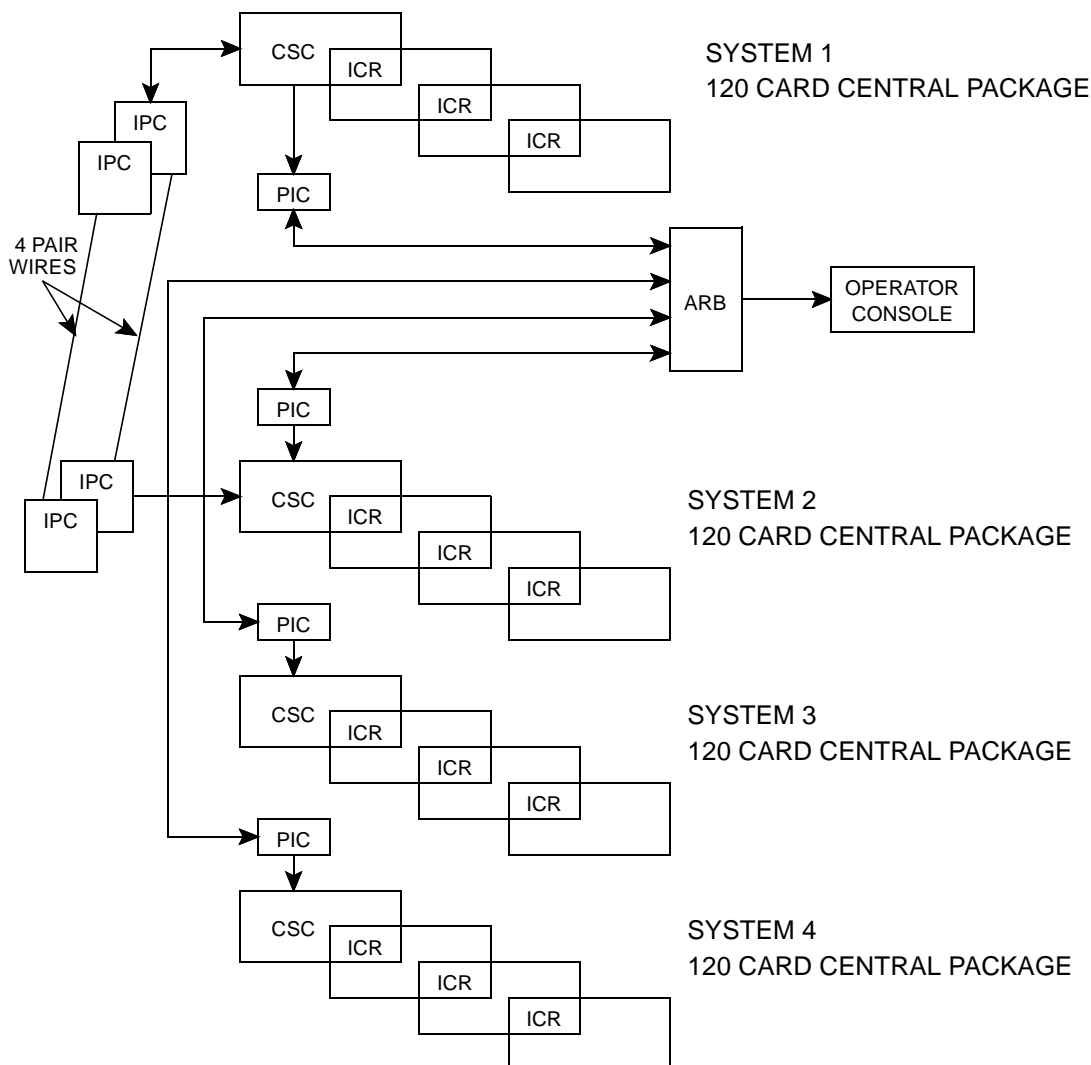

Figure 2-1 EXPANDED SYSTEM
The VR-CM50 has an architectural limitation of 120 card slots in a system central package. While this is adequate for the majority of applications, some very large systems may exceed this limitation. The TDM-ARB card allows an associated console to access the control functions and to transmit and receive on all channels in up to four (4) separate, collocated Central Processor Packages (CPPs). One TDM-ARB is required for each console that must access multiple CPPs. One TDM-PIC for each console must be present in each of the central packages the console must access. If cross-patching is required between channels in multiple central packages, an IPC card must also be present for that console in each package. Figure 2-1 shows the role of the ARB card in expanded systems.